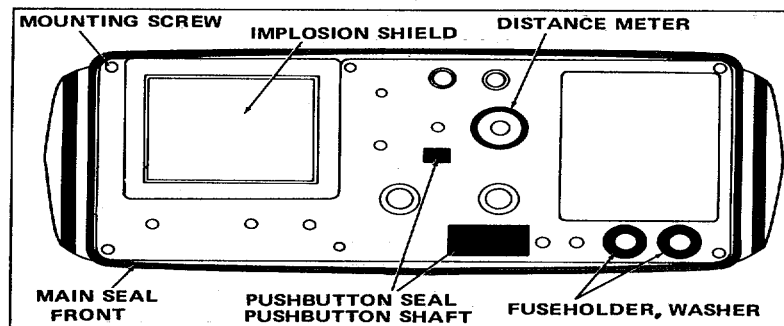

Figure 5-5. Subpanel, Identification of Parts.
#### 1. Preparation of the Subpanel for further assembly (see Fig. 5-5)
**6. Installation of rubber seals in two grooves located on the outer (see Figs. 5-5 and 5-6) edges of the front and rear sides of the Subpanel**
**7. Install the implosion shield and its retainer on the Subpanel (see Figs. 5-5 and 5-7)**